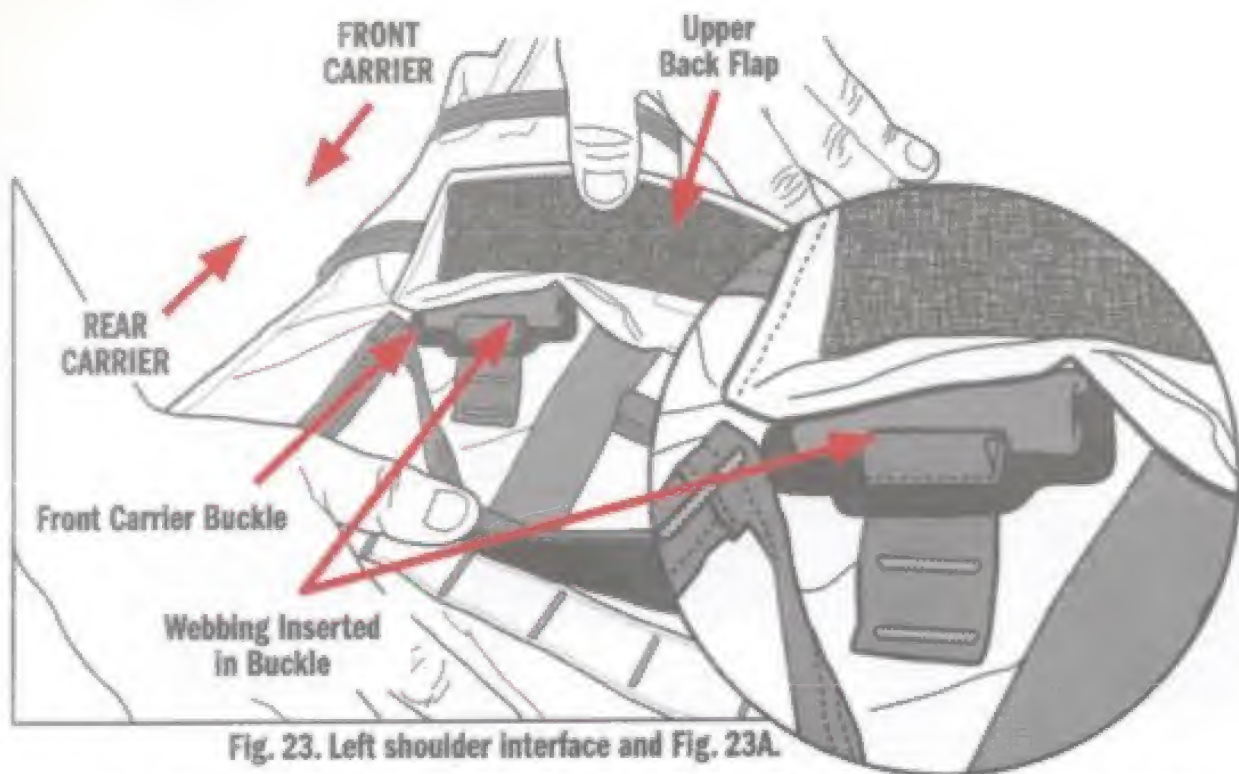

Fig. 23. Left shoulder interface and Fig. 23A.
3. Open the Upper Back Flap as shown in **Fig. 23**. The buckle from the Front Carrier shoulder straps should now be in the Rear Carrier.